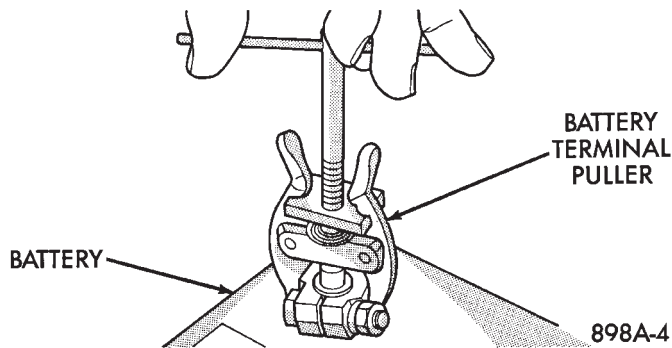
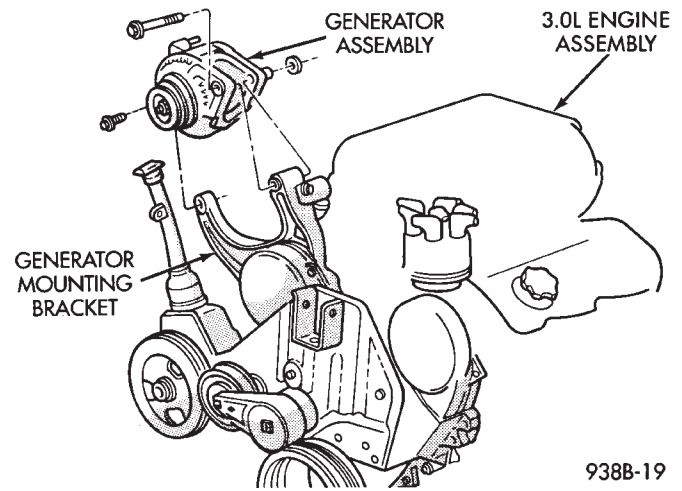
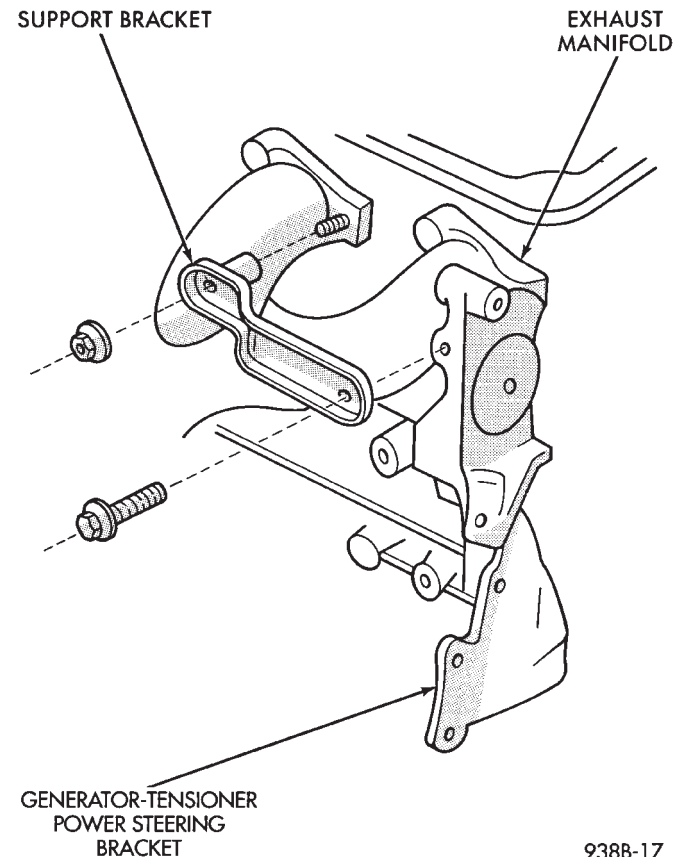

Fig. 1 Remove battery negative cable
Fig. 6 Remove or Install Generator Mounting Bolts—3.0L Engine
Fig. 7 Support Bracket for Generator Tensioner Power Steering Bracket
- (1) Disconnect battery negative cable (Fig. 1).
- (2) Remove generator drive belt. Refer to Group 7, Cooling System.
- (3) Remove the generator mounting bolts and separate the generator from the mounting bracket (Fig. 6).
- (4) Remove the B+ terminal nut, field terminal nuts, and ground/wire harness hold-down nuts. Remove wire connectors.
- (5) Remove the generator from the vehicle.
- (3) Loosen, but do not remove the nut on the support bracket at exhaust manifold (Fig. 7).
(6) Remove the generator mounting bolts.
(7) Remove and position the power steering reservoir from the generator mounting bracket. Do not remove the hoses from the reservoir.
(8) Remove the three generator support bracket bolts (Fig. 7).